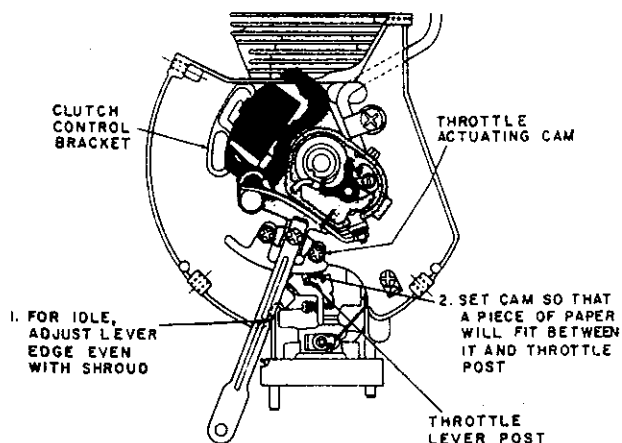

Figure 26
- K. Position the operating lever as shown in Figure 26 to set the idle location of the throttle cam.